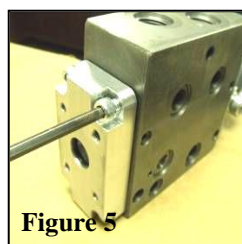

Figure 5
2. Secure Adaptor Plate to Valve using four 5mm Cap Screws as shown in Figure 5. Do not torque at this time.